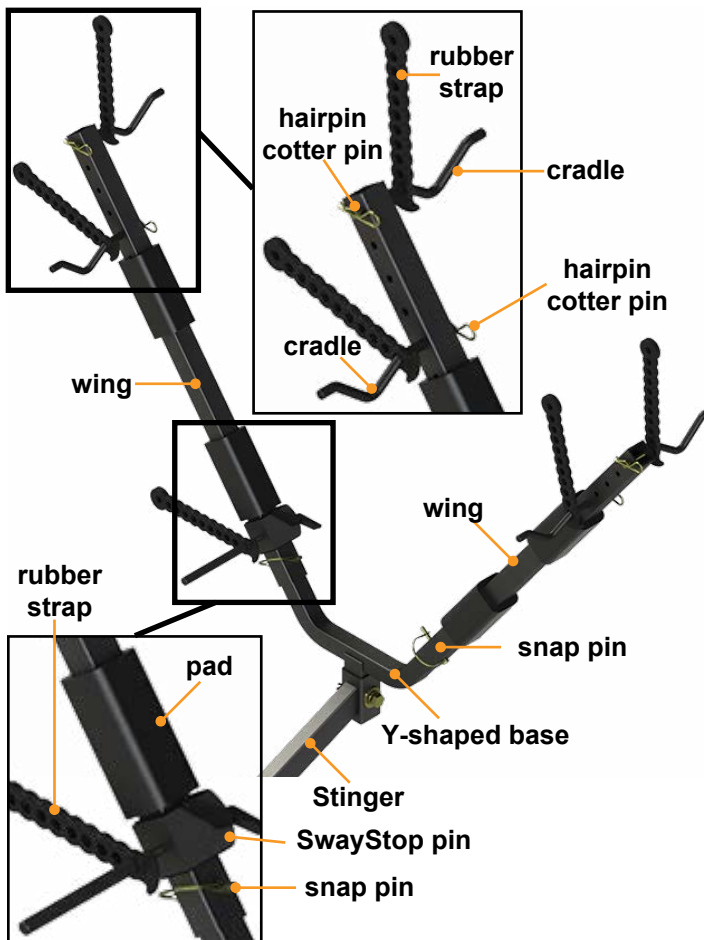

Fig.5
1. Attach Y-shaped base to Stinger (if necessary) and secure with NoMotion pin, washers and hairpin cotter pin (**Fig.5**).
2. Slide one SwayStop™ pin onto each wing starting from the bottom so the SwayStop is between the snap pin and the pad (**Fig.5**). The pins should point in opposite directions.
3. Attach wings to Y-shaped base using two snap pins (**Fig.5**).
5. Attach four cradles, including two on each wing (**Fig.5**). Each wing should have one cradle facing forward and one cradle facing backward.